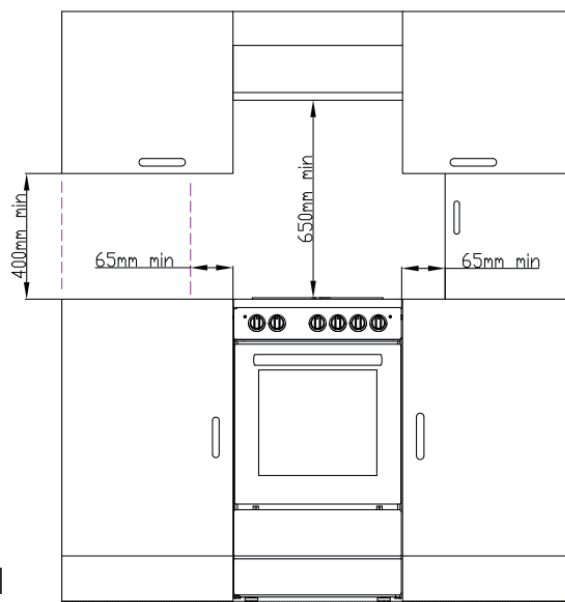

Figure 1
3. Surrounding furniture, cabinets and extractor fans should be positioned in accordance with the diagram shown in the figure 1.